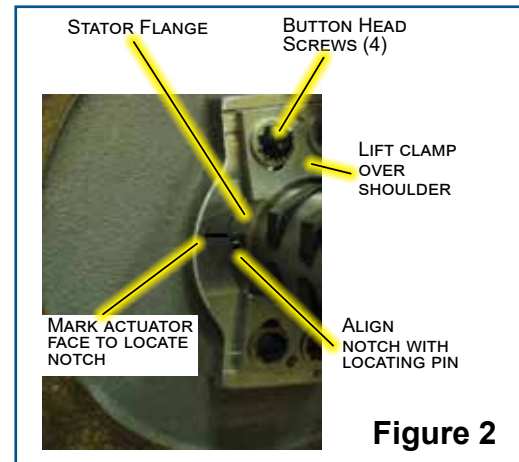

Figure 2
5. Use a fine point marker to note the position of the control end relative to the actuator body. Mark the drive's face immediately adjacent to the top of the notch (see Fig. 2).
6. Loosen (do not remove) the four mounting clamp button head screws (3/8" long) and slide the top clamp up over the edge of the shoulder in the body, immediately above the stator flange (see Fig. 2). Snug one of the screws to hold the clamp up while replacing the assembly. Allow the bottom clamp to hang by the screws.
13. Slide the new assembly onto the shaft, turning the coupling (if necessary) to align the assembly with the shaft. Align notch in the stator with the locating pin situated to the left of the control end shaft (see Fig. 2).